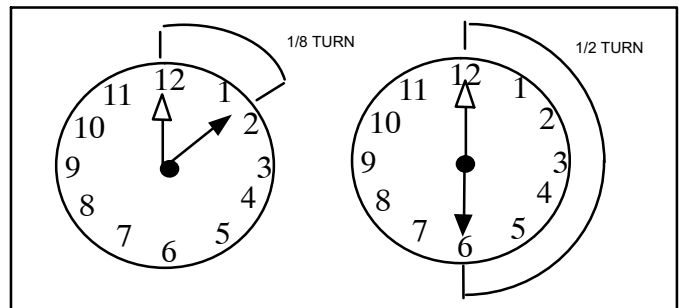

Figure 5. Tightening Distance
2. Attach the stubbed end of the kit valve to the liquid line orifice housing. Finger tighten and use an appropriately sized wrench to turn an additional 1/2 turn clockwise as illustrated in Figure 5, or 20 ft-lb.
4. Attach the liquid line assembly using the provided brass nut to the expansion valve. Finger tighten and use an appropriately sized wrench to turn an additional 1/2 turn clockwise as illustrated in figure 5, or 20 ft-lb.
- Connect the equalizer line from the expansion valve to the equalizer suction port on the suction line. Finger tighten the flare nut plus 1/8 turn (7 ft-lbs) as illustrated in figure 5.
- Replace expansion valve cap and finger tighten plus 1/8 turn as illustrated in figure 5 or 7 ft-lbs.